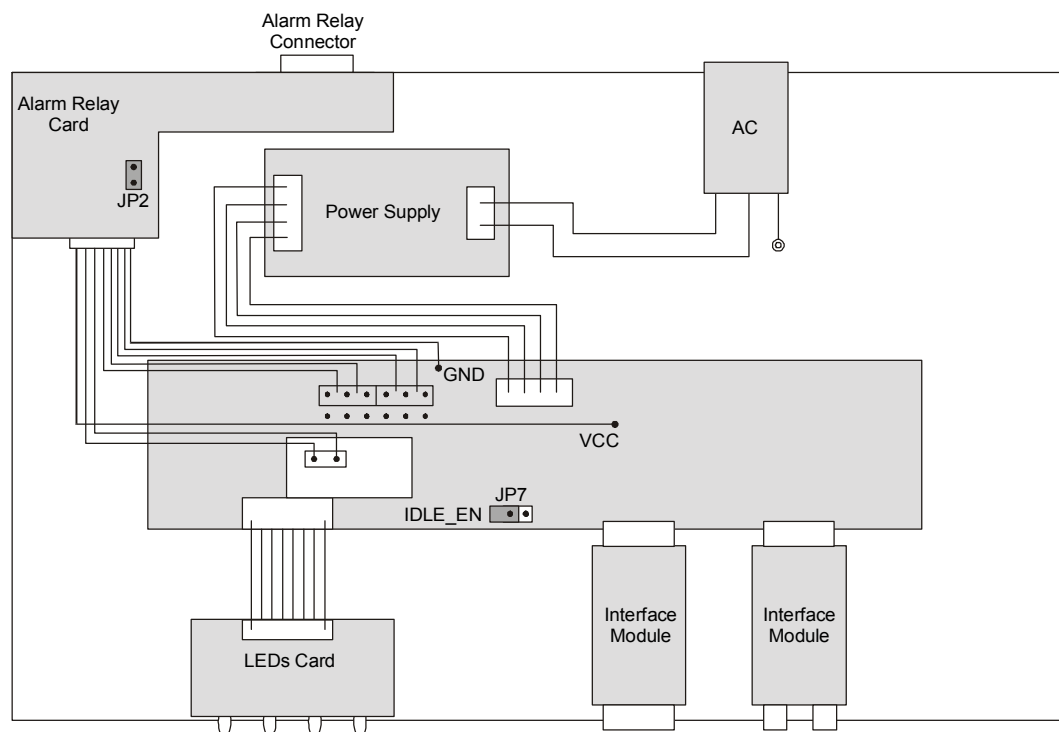

Figure 2-1. PCB Layout
This section describes how to set two jumpers located on the AMC-101 printed-circuit board. Figure 2-1 illustrates the layout of the AMC-101 PCB. Table 2-1 provides details on the functions of the internal jumpers and their default settings.
8. Set the JP2 and JP7 jumpers (see Figure 2-1 and Table 2-1).